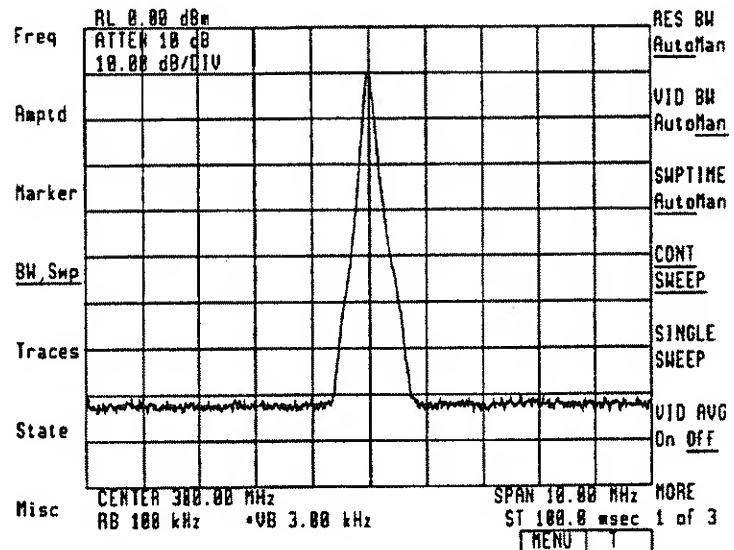

Figure 2-52. Plot Output
3. Press **PLOT** on HP 70205A display (or the **PLOT** key on HP 70206A display). An output plot should appear as in Figure 2-52.